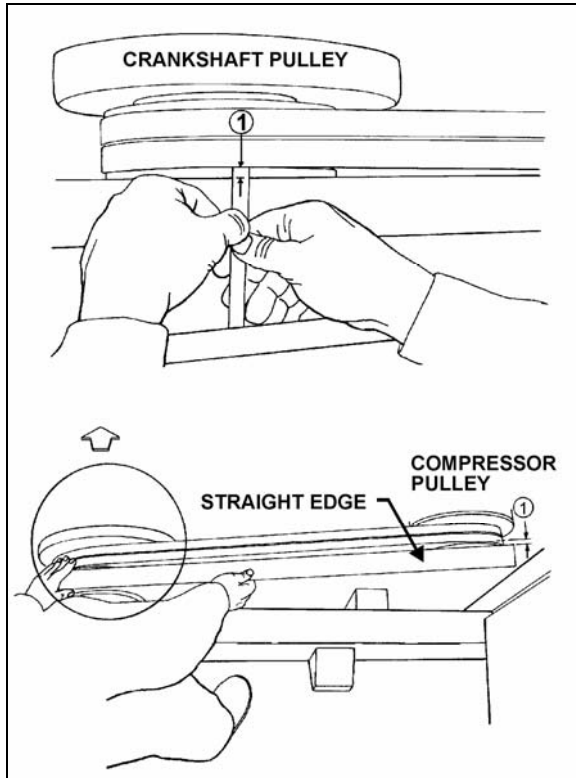
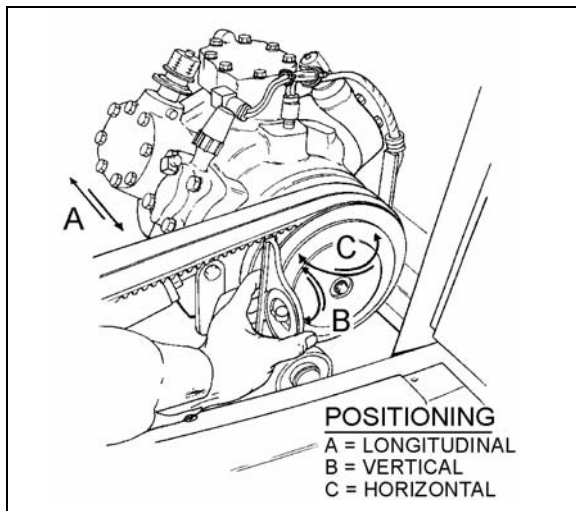

FIGURE 25: COMPRESSOR ALIGNMENT 22040
FIGURE 26: COMPRESSOR ALIGNMENT 22072
After belt replacement or during normal maintenance, belt play between idlers and belt must be checked to ensure proper operation. Refer to figure 25 for proper plays.
1. Rest an extremity of a straight edge of approximately 46 inches (117 cm) against the upper part of the outer face of crankshaft pulley, positioning the other end close to the compressor clutch pulley (figure 25 & 26).
2. Check the distance between each extremity of straight edge (1, figure 25) and the first drive belt. If they are different, loosen the compressor support bolts and with a hammer, knock support to slide it in order to obtain the same distance; then tighten bolts.
2. Check the distance between each extremity of straight edge (1, figure 25) and drive belt. If they are different, loosen the pillow block compressor bolts and with a hammer, knock compressor pillow block to slide it, in order to obtain the same distance; then tighten bolts.
Rest a short "angle and level indicator" on the outer side face of the crankshaft pulley, adjust the level indicator inclination at 0° and check if the compressor pulley is at same angle (figure 25 & figure 26). If it is not the same, shim under the appropriate pillow block in order to obtain the correct angle.